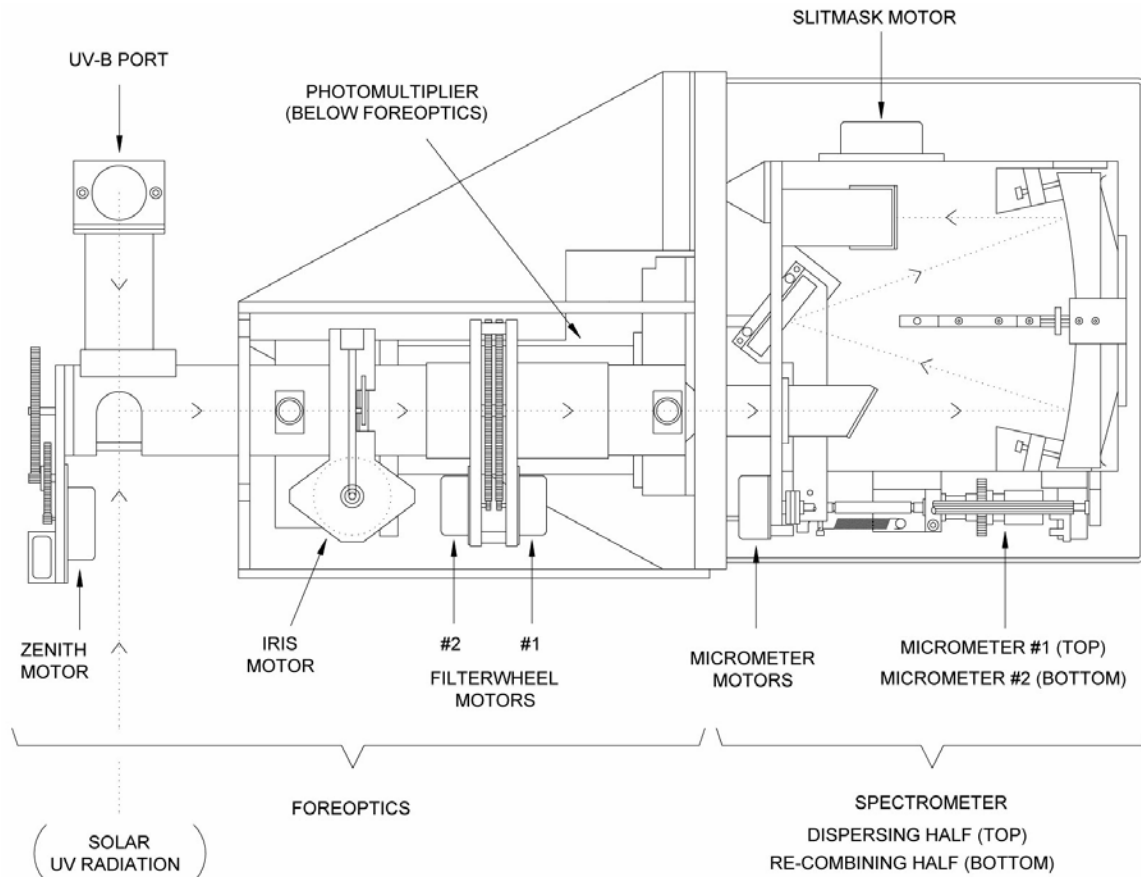

Figure 2.5: Top View of Spectrophotometer
In one corner of the cover is a 14cm deep, 35° inclined surface. A 6.35 cm by 14 cm hole has been cut from this surface to provide an opening which is properly positioned to pass direct sunlight or zenith skylight to the spectrophotometer. This opening is covered by a quartz window [QW 1], which is secured by a weatherproof seal. ( Items enclosed by square brackets, [ ], are references to the Selected Parts List, Table 2-2, and Figure 2-5).
**FOREOPTICS Refer to Figure 2.4 and Figure 2.5**